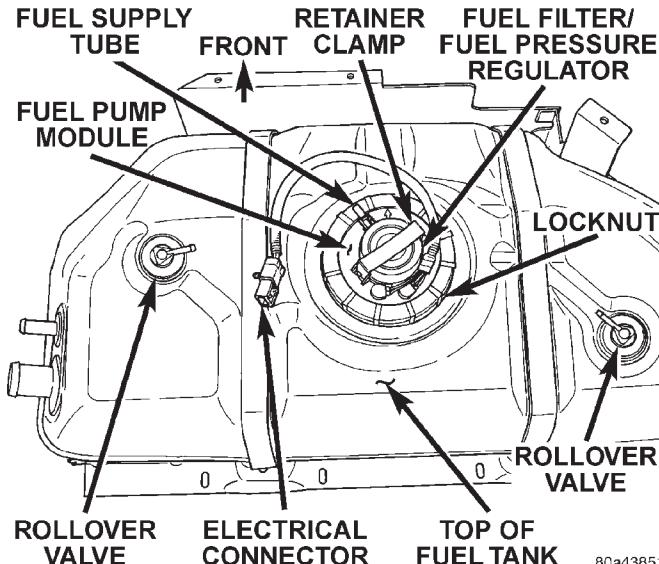
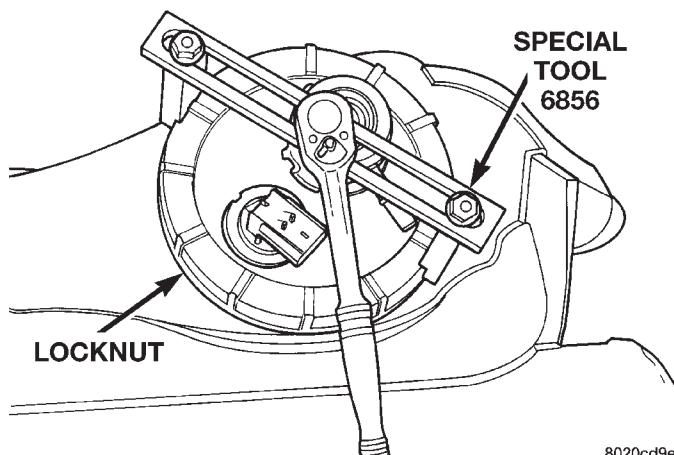

Fig. 25 Top View of Fuel Tank and Fuel Pump Module
Fig. 26 Locknut Removal/Installation—Typical
(2) Thoroughly wash and clean area around pump module to prevent contaminants from entering tank.
(3) The plastic fuel pump module locknut is threaded onto fuel tank (Fig. 25). Install Special Tool 6856 to fuel pump module locknut and remove locknut (Fig. 26). The fuel pump module will spring up when locknut is removed.